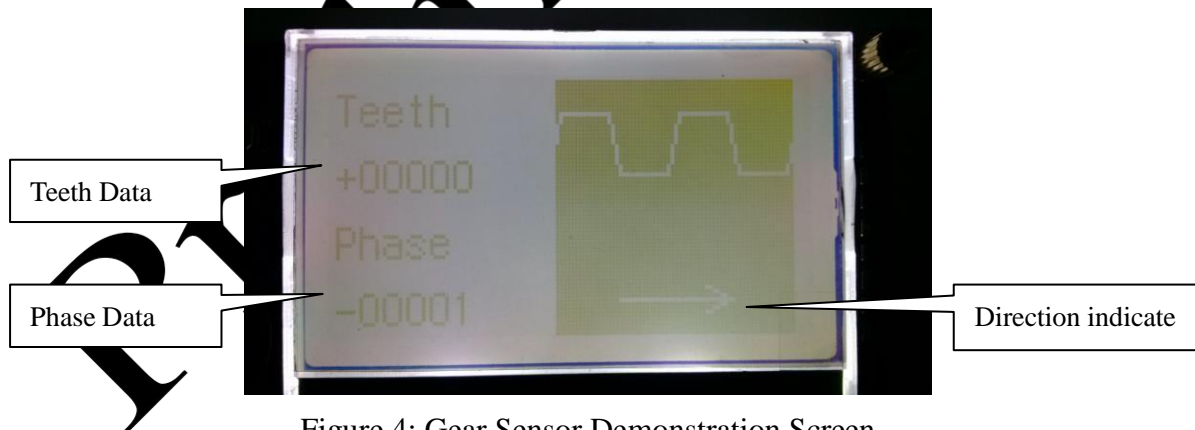

Figure 4: Gear Sensor Demonstration Screen
2. Power the board with 9V battery or USB, a MDT's logo shows as background (Figure 2). After 4 seconds, the display automatically shifts to gear screen (Figure 4).